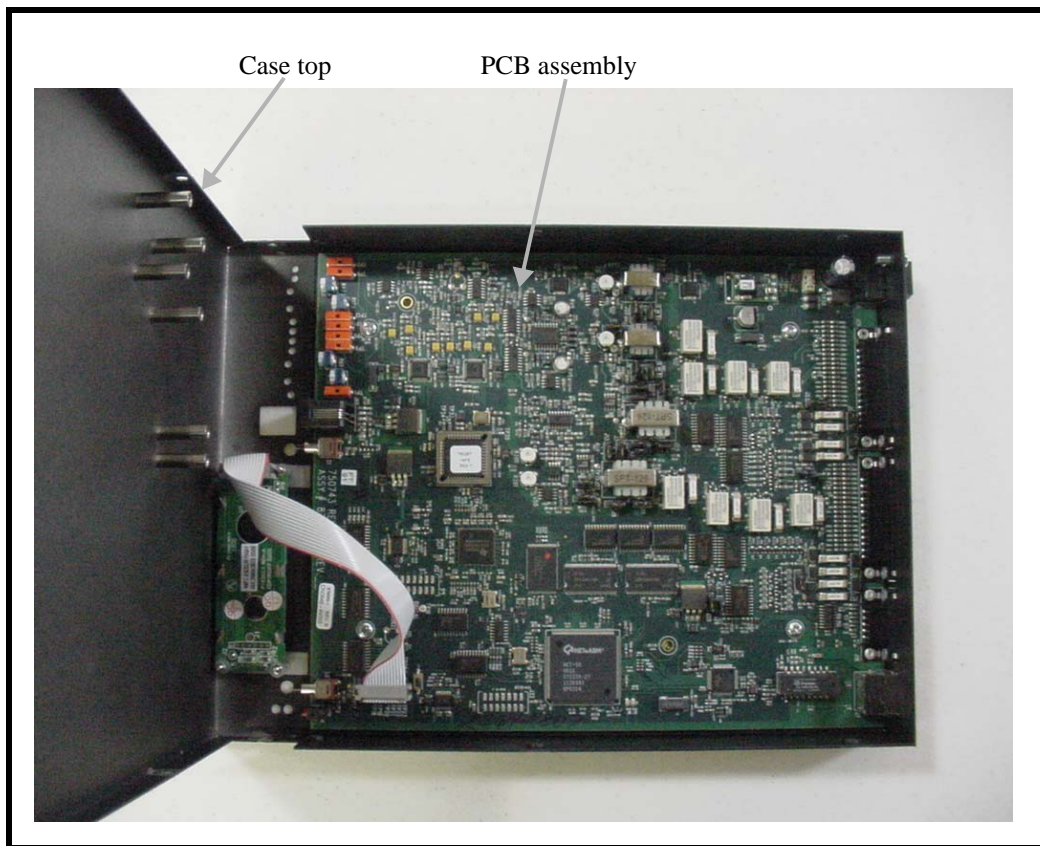

FIGURE 83. IP-223 PCB Assembly
2. Remove the **six (6) screws** from the case top.
3. Carefully slide the **case top** forward past the IC and LINE buttons, and then lift up to gain access to the **PCB** (Printed Circuit Board) as shown in Figure 83.